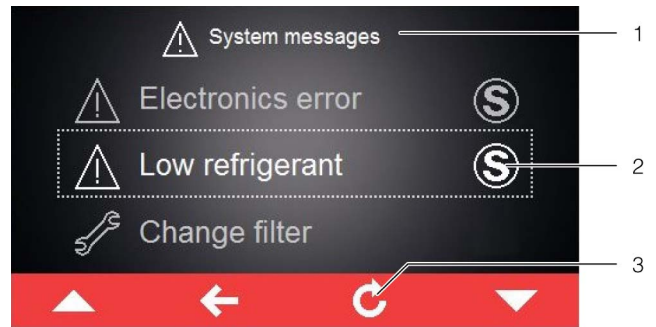

Fig. 27: Screen showing error messages
If an error message applies that cannot be resolved by the operator himself and which is not reset automatically, the "Service" symbol will appear after the error message and in the control bar next to the symbol for system messages (fig. 27, item 2).